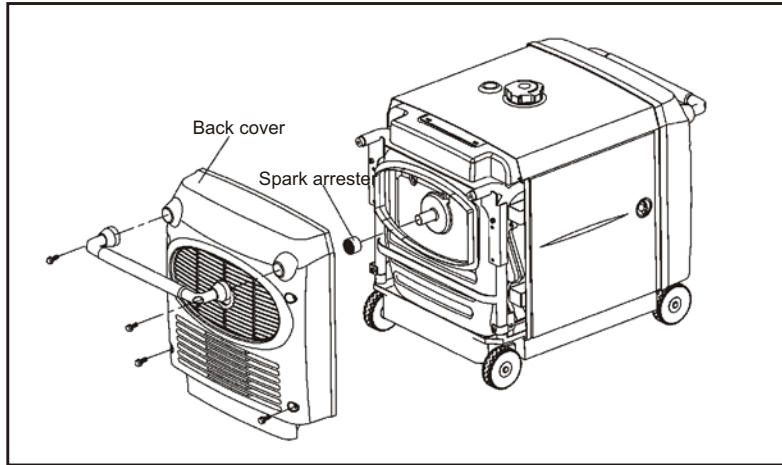

Fig. 19 Spark Arrester Maintenance
**7.5 Spark arrester maintenance (See Fig.19)**